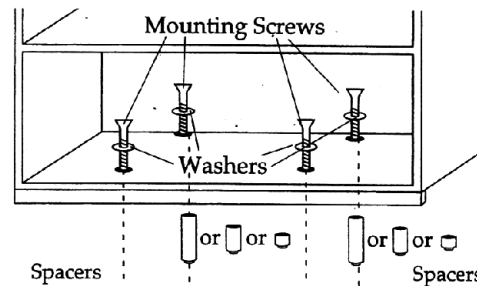

Figure 6
9. Align the unit under the screws. Hold the unit so its mounting screw holes (on the top of the unit) are against the mounting screws (see Figure 6), then partially tighten the screws.